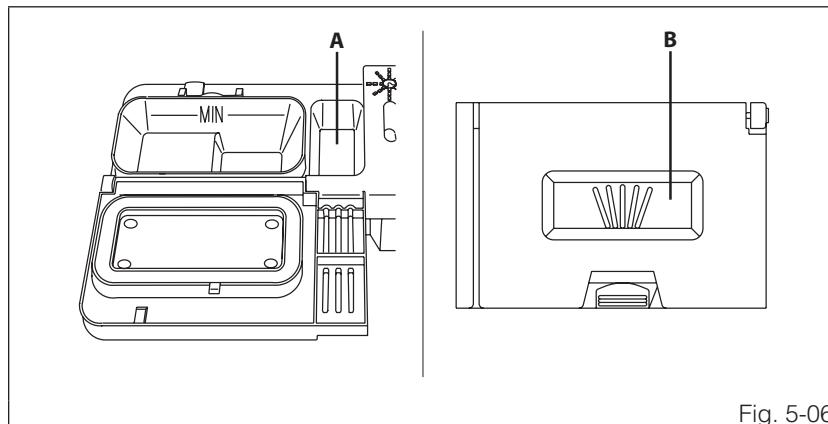

Fig. 5-06
- When a program with hot prewash is selected (see program table in the "Description of Controls" manual), extra detergent must be placed in the cavity (ref. A or B fig. 5-06, depending on models).